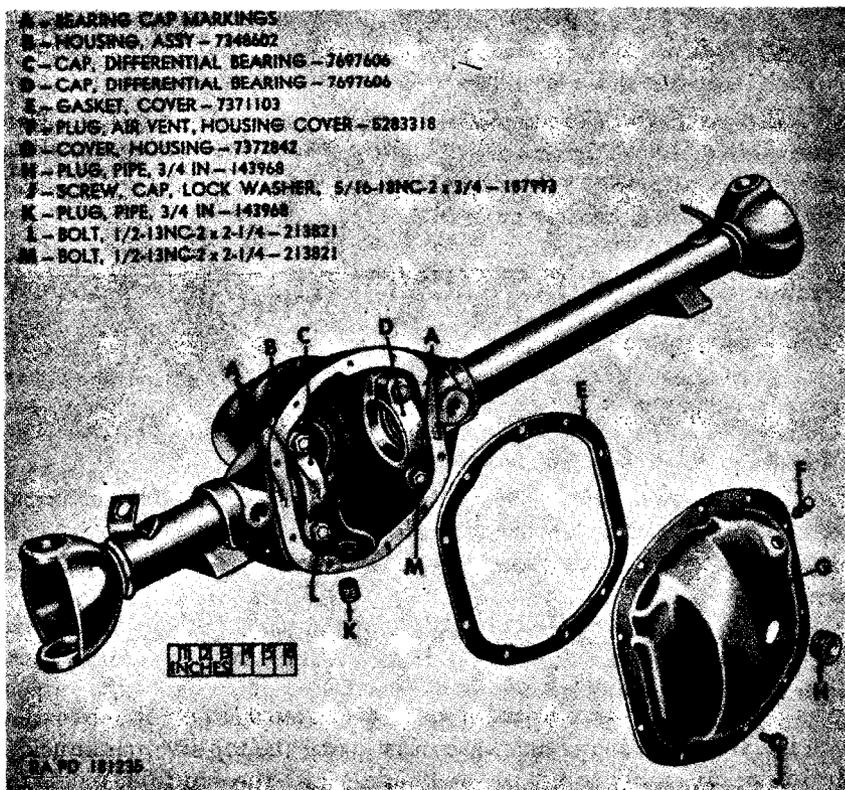

Figure 99. Front axle housing assembly.
b. Housing Assembly (fig. 99). The housing is of welded construction with an opening provided near the center for mounting the differential case and gears. The housing is provided with a spherical shaped extension at each end for mounting the steering knuckle flanges. An air vent plug is provided on the housing cover for venting purposes.
a. Remove Housing Cover (fig. 99). Remove the 10 lockwasher cap screws (J) securing the housing cover to the housing assembly. Remove housing cover (G). Discard the cover gasket (E).
b. Remove Differential Bearing Caps (fig. 99). Remove the 2 bolts and lockwashers securing each of the 2 differential bearing caps (C and D) to the housing and remove the caps. Mark the caps and the adjacent sides of housing for identification to assure proper assembly,